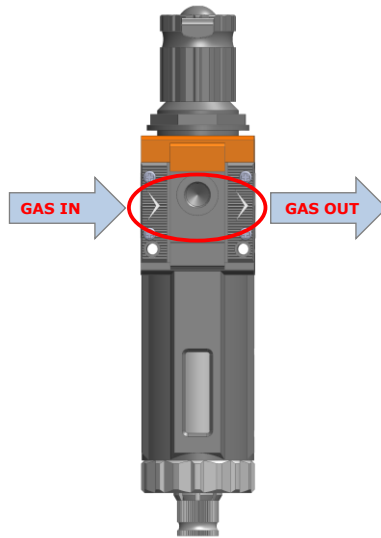

Figure 6. Input and Output gas ports. See symbol on the rear of Pressure Gauge
1. Install the **pressure Gauge for the CO2 line** between the CO2 tank and CO2-O2-UNIT-BL [0-10; 1-18]. Follow the arrow on the rear of the Pressure Gauge for the correct Gas In-Out (see Figure 6).